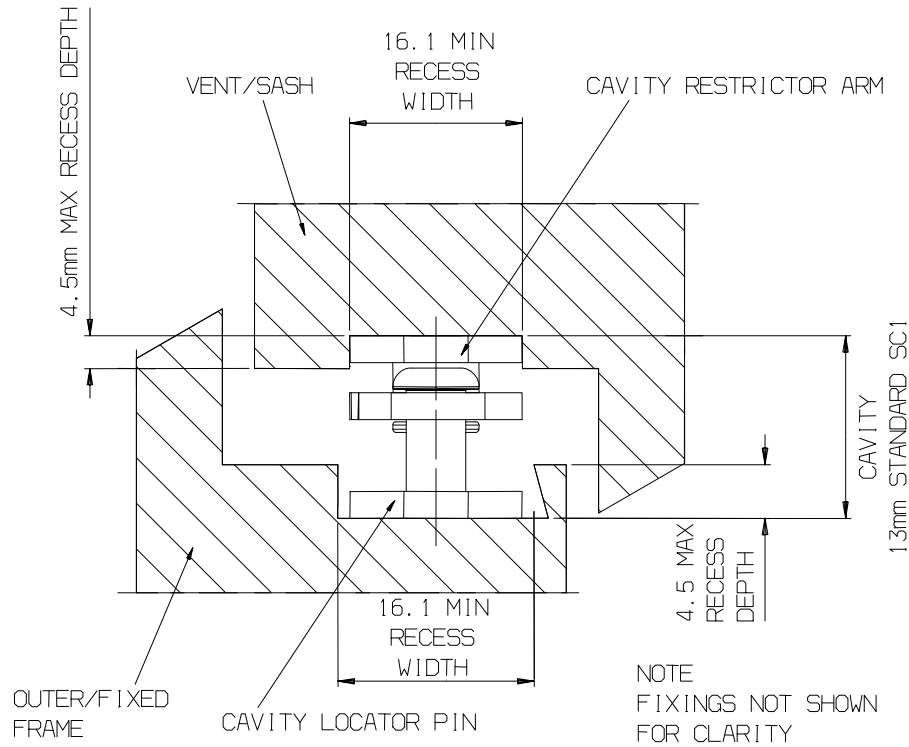

Fig. 1
- 3.1.8 The vent and outer frame location recess or up stand, if any, must be as shown in Fig. 1.
Alternatively the Cavity Restrictor Arm can be positioned within any vent aperture which conforms to the clearance requirements of Fig. 1.